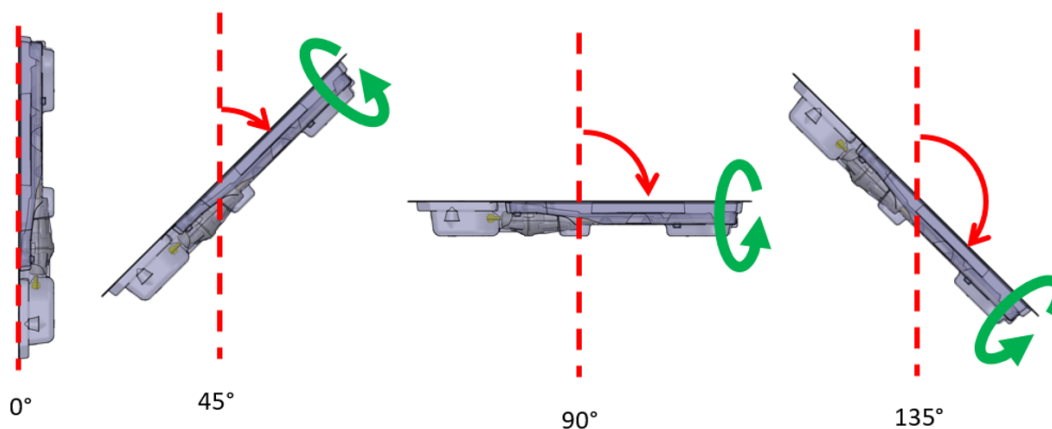

Figure 13: Recommended procedure for purging air from ultrasound applicator
- While the purging operation is on, hold the UA in its package—to keep the UA sterile, be careful not to touch the UA handle. Tip the package upwards in the 0° position, then tilt to approximately 45°, then 90°, and 135°. At each angle, slowly rotate the package approximately 360° and tap continuously along the packaging to dislodge any bubbles in the handle and shaft (*Figure 13*).